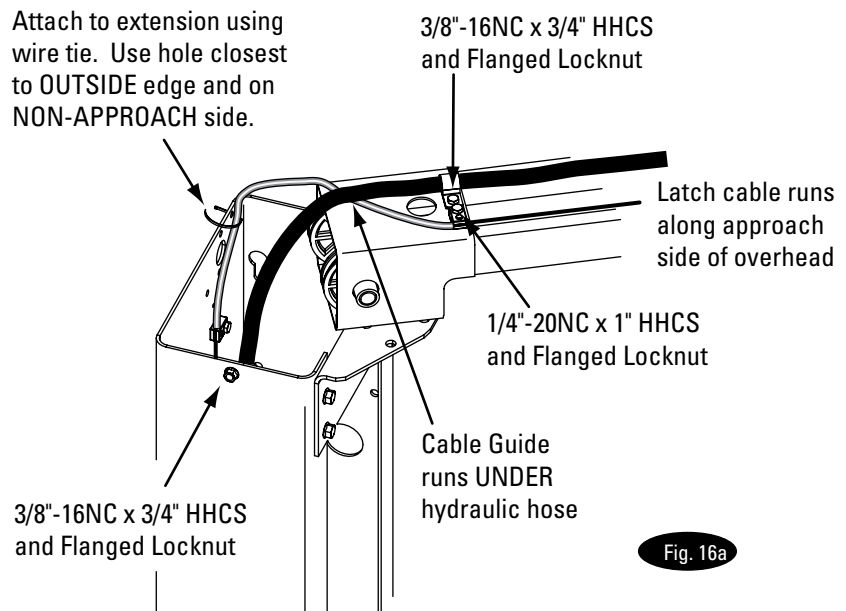
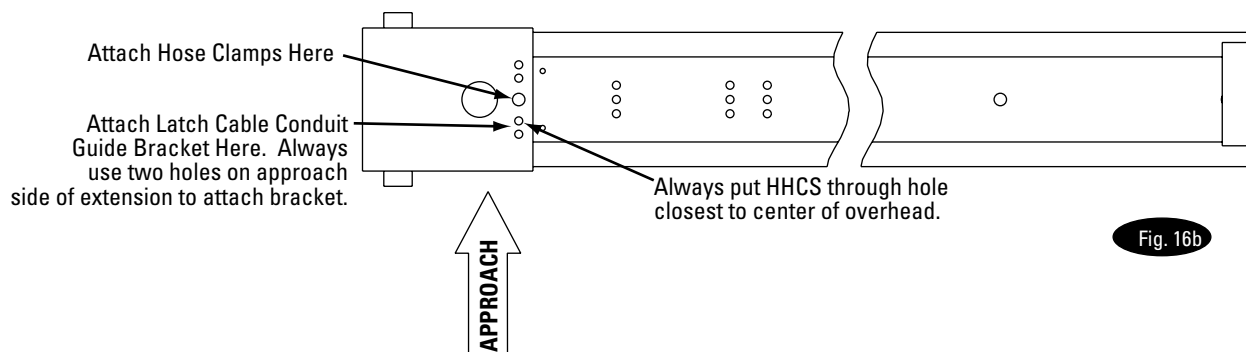
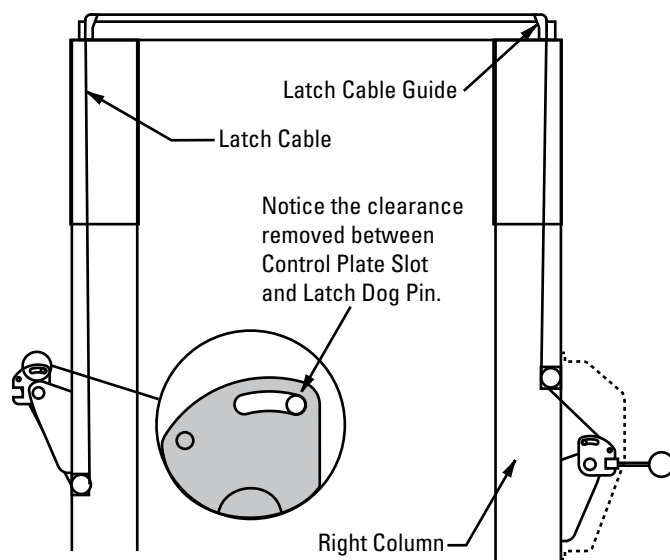
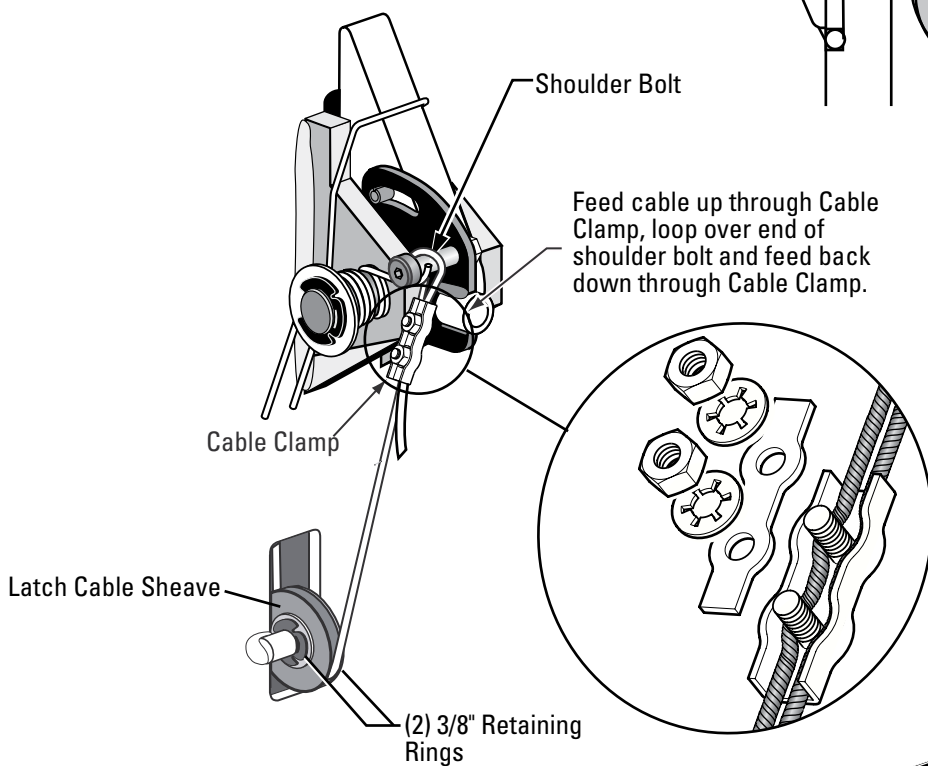

Fig. 16a
Fig. 16b
Fig. 18
Fig. 19
NOTE: Route Power Unit hose inside columns using slots provided at column base, Fig. 14. Route Overhead Hose in column channel on outside of column, Fig. 14. Overhead hose goes over top end of overhead assembly, Fig. 12 & Fig. 16a & Fig. 16b.
- D) Attach latch cable conduit guide brackets to overhead as shown, Fig. 16a & Fig. 16b. Always use the holes on the approach side of the lift. HHCS should be in hole nearest the center of the overhead, Fig. 16b.
- E) Route cable up inside column and through the latch cable guide, Fig. 16a & Fig. 18.
Using wire ties provided, tie off cable guide to column extension as shown, Fig. 16a. Guide must be attached in hole closest to the outside edge of the column on the NON-APPROACH side.
- F) Continue routing cable to the left column latch cable guide, Fig. 16a & Fig. 18, routing the cable through the left column latch cable guide, Fig. 16a.
- G) Bring the cable down inside the left column and feed the end of the cable through the lower latch cable sheave slot so that the cable is now back outside the column, Fig. 19.
- H) Install latch cable sheave and retaining rings in lower slot of non-power unit column as shown, Fig. 19.
latch cable sheave, Fig. 19.
- K) Insert cable in cable clamp along one side, loop around shoulder screw and back down, inserting cable along other side of cable clamp, Fig. 19. Place top back on clamp, barely tightening.
- L) Next, pull the control plate down, Fig. 18 & Fig. 19, to eliminate any clearance between the control plate slot and the latch dog pin, Fig. 18.